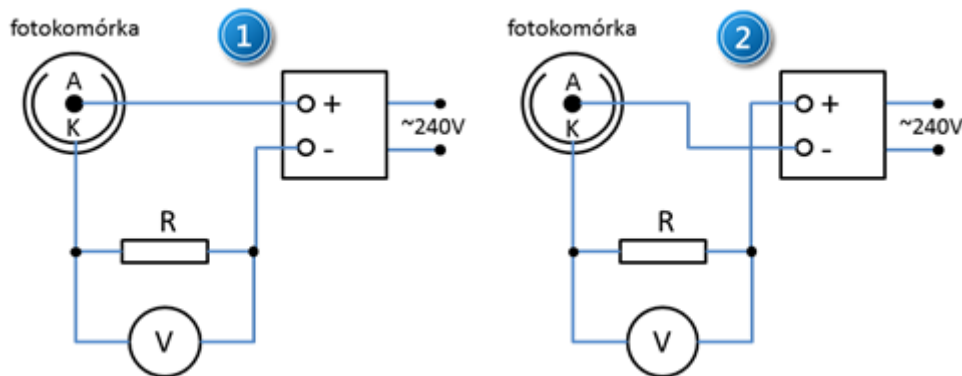

Figure 2. Photocell connection diagram: 1 – positively polarised connection; 2 – negatively polarised connection.
2. Connect the system components as shown in *Figure 2* and *Picture 1*, i.e., the spectral lamp at the left end of the optical bench, the lens at half the distance between the lamp and the monochromator and the photocell on the right-hand side of the monochromator.
3. Connect the photocell (with a BNC cable) to the (powered off) power supply 6, *Picture 1* so that the photocell's power polarisation is negative – in accordance with 2 in *Figure 2*. Before turning on the power, ask the supervisor to verify your circuit connections.
17. Connect the photocell (with a BNC cable) to the (powered off) power supply so that the photocell's power polarisation is positive - in accordance with 1 in *Figure 2*.